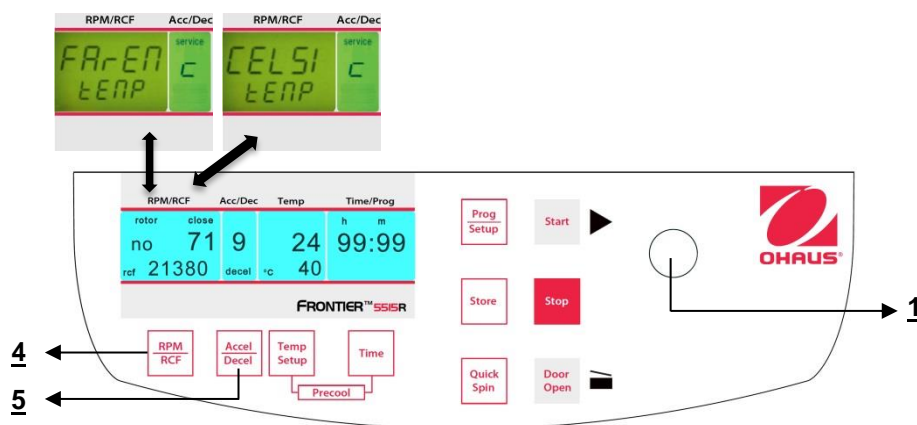

Figure. 32
Proceed as described under point 4.1.2 to enter this program mode and then press the key "**Accel/Decel**" (5). In the display "**Acc/Dec**" (A-2) the word "**Service**" appears. Now select the letter "**C**" with the adjusting knob (1). As a result, in the display "**RPM | RCF**" (A-1), the words "**CELSI/temp**" appear. If you press the key "**RPM | RCF**" (4), the word "**CELSI**" flashes and you can change the display into Fahrenheit "**FAREN**", with the adjusting knob (1) (See figure 32).